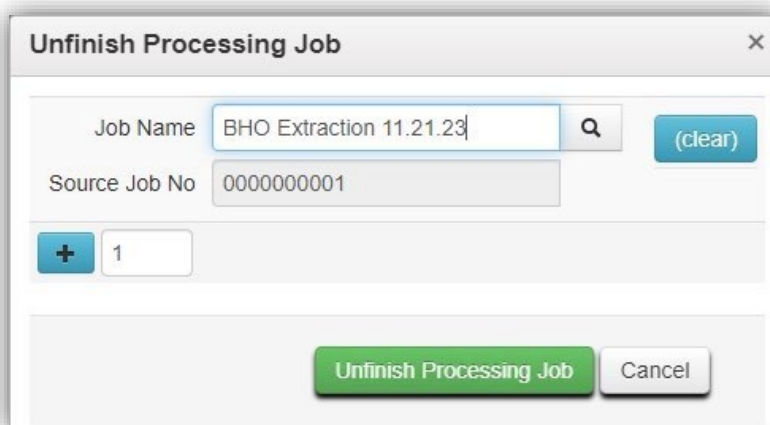

Figure 19: Unfinish Processing Job action window
- To complete the unfinish processing job process, click the green Unfinish Processing Job button in the action window – **see Figure 19.**